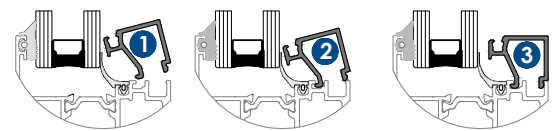

FIG. 8
- a. Reinstall Glass Stops, starting with horizontals first. See **FIG. 8**